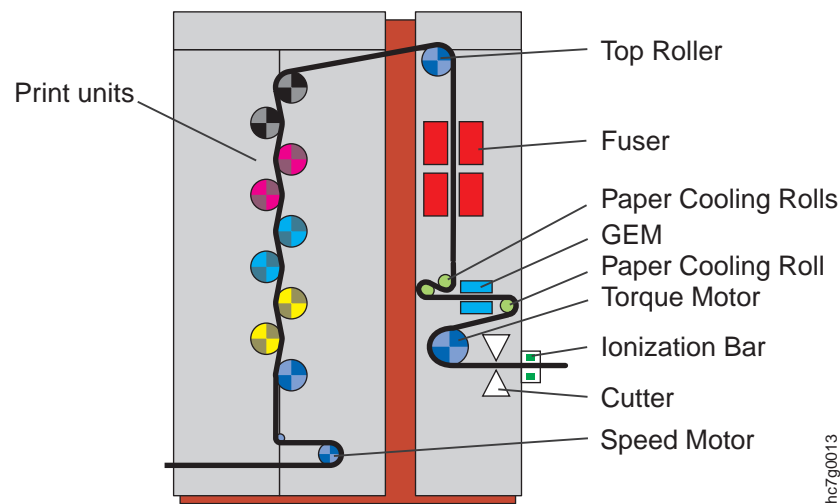

Figure 296. Inserting the Paper Through the Cutter
- Insert the paper through the cutter, as shown in Figure 296.